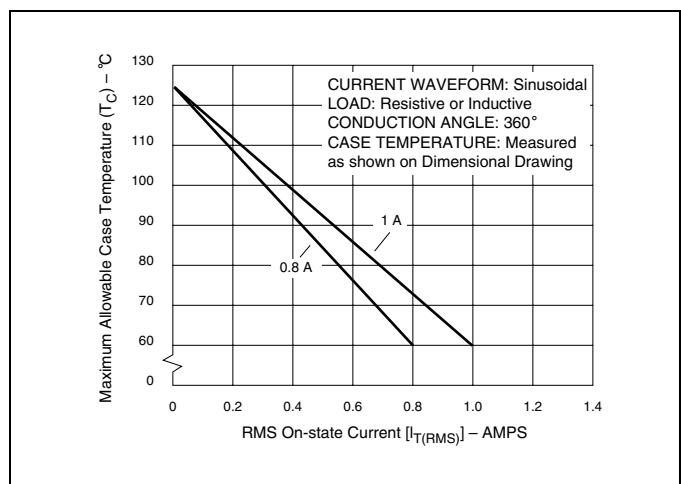
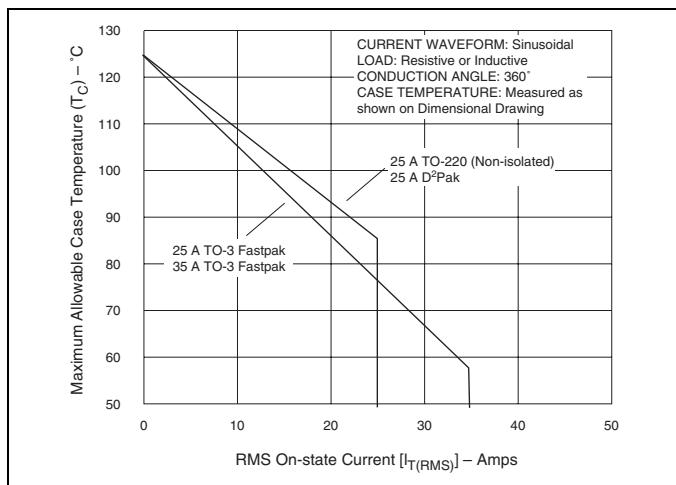
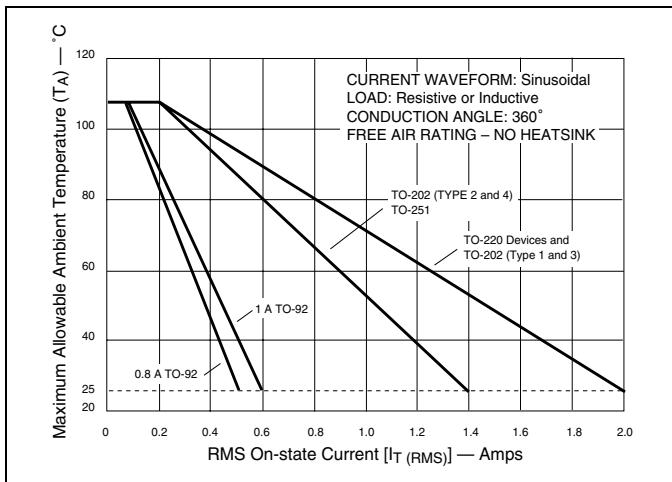
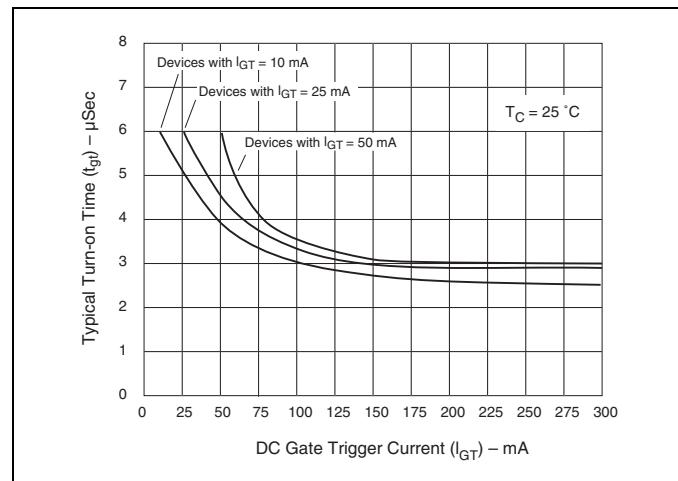

Figure E2.1 Maximum Allowable Case Temperature versus On-state Current (0.8 A and 1 A)
Figure E2.6 Maximum Allowable Case Temperature versus On-state Current (25 A and 35 A)
Figure E2.7 Maximum Allowable Ambient Temperature versus On-state Current
Figure E2.15 Turn-on Time versus Gate Trigger Current (Typical)
- (1) For either polarity of MT2 with reference to MT1 terminal
- (2) For either polarity of gate voltage (V_{GT}) with reference to MT1 terminal
- (3) See Gate Characteristics and Definition of Quadrants.
- (4) See Figure E2.1 through Figure E2.7 for current rating at specific operating temperature.
- (10) See Figure E2.15 for t_{gt} versus I_{GT}.
- (11) See package outlines for lead form configurations. When ordering special lead forming, add type number as suffix to part number.
- (12) Initial on-state current = 200 mA dc for 0.8 A to 10 A devices, 400 mA dc for 15 A to 35 A devices
- (13) See Figure E2.1 through Figure E2.6 for maximum allowable case temperature at maximum rated current.
- (14) Pulse width ≤ 10 μ s; I_{GT} ≤ I_{GTM}
(15) R_L = 60 Ω for 0.8 A to 10 A triacs; R_L = 30 Ω for 15 A to 35 A triacs
(16) T_C = T_J for test conditions in off state
(17) I_{GT} = 300 mA for 25 A and 35 A devices
(18) Quadrants I, II, III only
(19) Minimum non-trigger V_{GT} at 125 °C is 0.2 V for all except 50 mA MAX QIV devices which are 0.2 V at 110 °C.